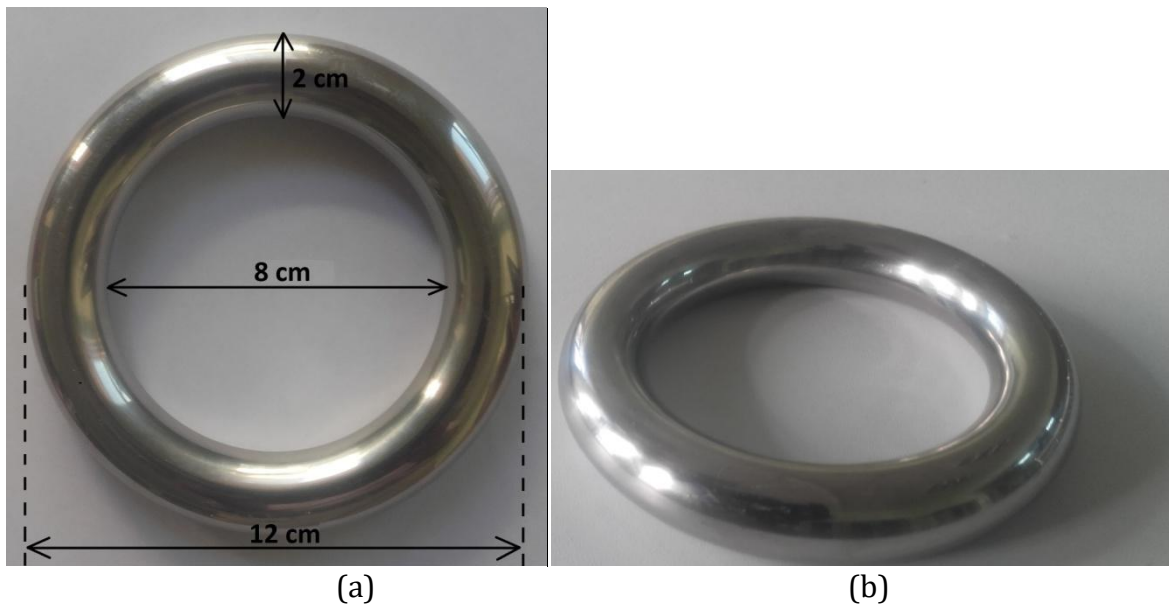

Figure 04: Stainless steel ring before applying colour (a) with dimensions (b) side view
- The dimensions of the ring are indicated in Figure 04.